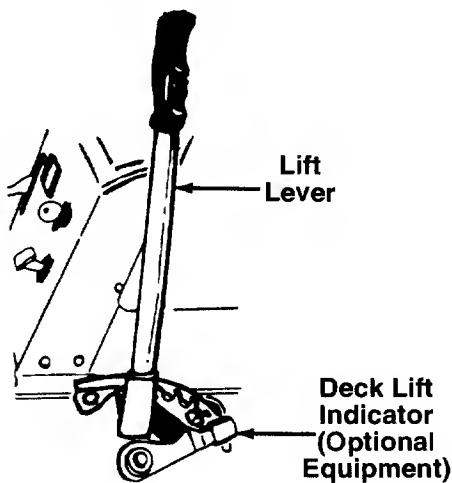

FIGURE 11.
NOTE: *The lift lever must be in the disengaged position when starting the engine, when shifting into reverse and if the operator leaves the seat. See figure 11.*
If so equipped, the deck lift indicator marks the position being used for the lift lever. Select the lift lever position desired, press the indicator lever outward, move it to the position immediately below the lift lever and release the indicator lever. See figure 11.
2. Place the lift lever in the DISENGAGED position. See figure 11.